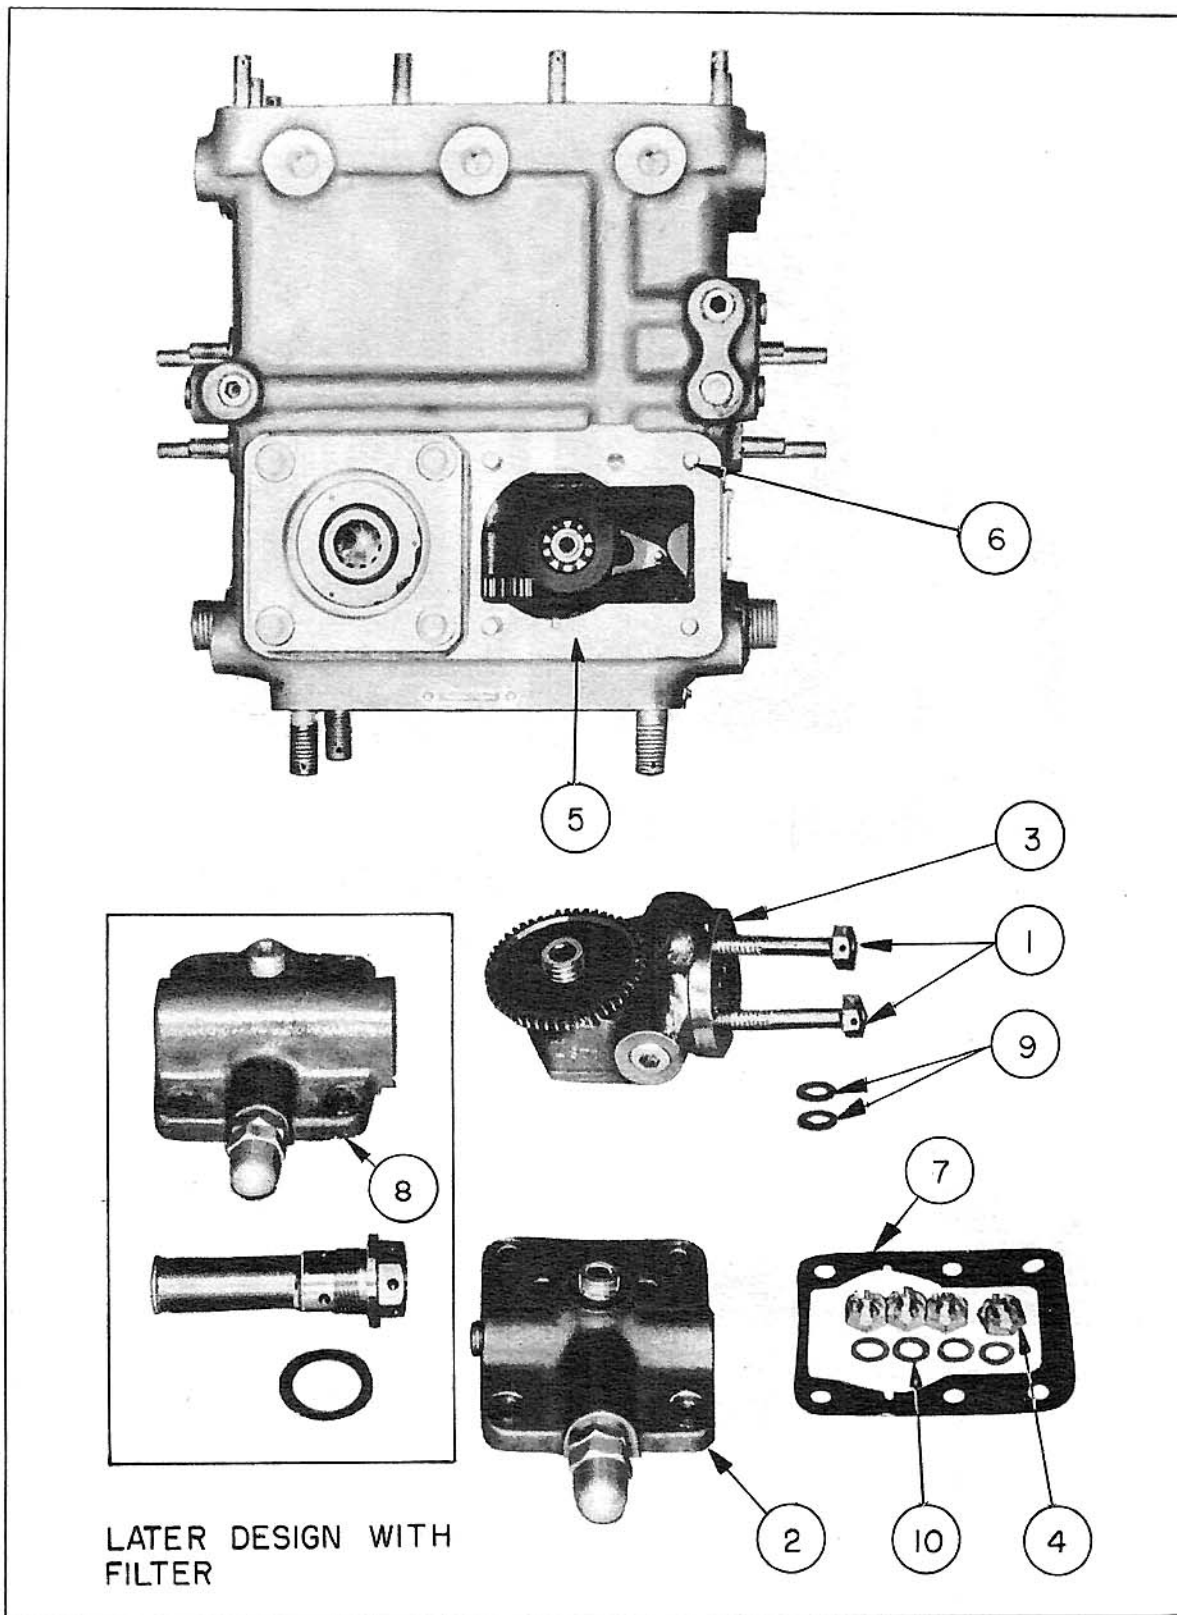

FIGURE 25
5. Control Pump (Fig. 25)
6. Control Pump (See Figure 25.) - a. Remove the two screws (1) which pass through the pump cover (2) into the pump body (3). Remove the 4 nuts (4) which hold the pump cover (2) to the housing (5). Lift off the cover, then replace the two screws (1) in the pump body so that they can serve to pull it evenly from the main housing.
8. Control Pump (Fig. 25)
9. Control Pump (See Figure 25.) - a. Set the pump body (3) into place in the housing (5) . Place the gasket (7) between the pump cover (2) and the housing. Insert gaskets (9) and the two screws (1) , and partially screw down. Put the 4 nuts (4) with washers (10) on the studs (6) and tighten the cover down. Screw down the long screws and safety wire them. New type cover (8) is also shown and is assembled in same manner as described.